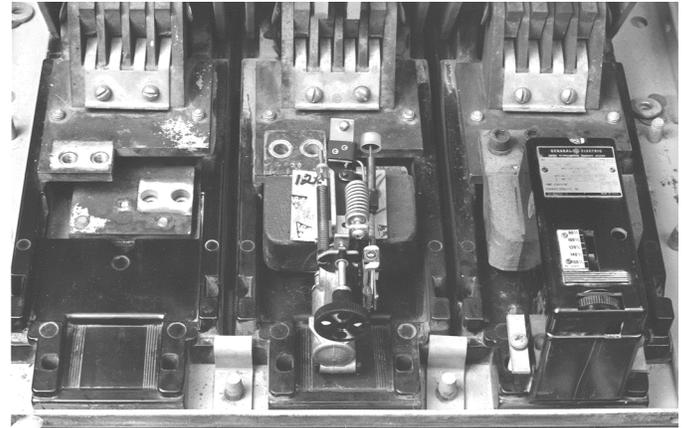

Figure 4. Removal of EC trip devices.
3. Remove and discard the four $\frac{5}{16}$ " Allen-head bolts securing each trip coil. The coil can then be lifted off and removed. Figure 4 shows one trip completely removed, one with the cover removed, and one still in place.